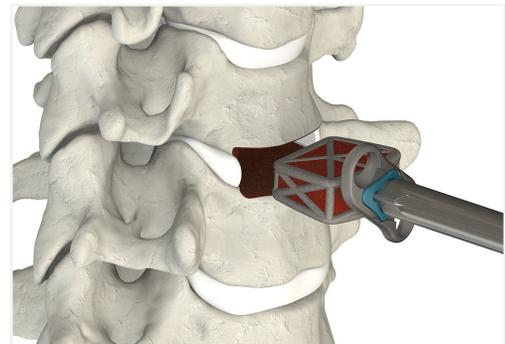

Figure 7
- ▲ Introduce the CSTS Interbody/Integrated Plate construct into the prepared intervertebral space and tap it into place with a mallet (Fig. 7). Confirm proper placement of the implant using fluoroscopy.